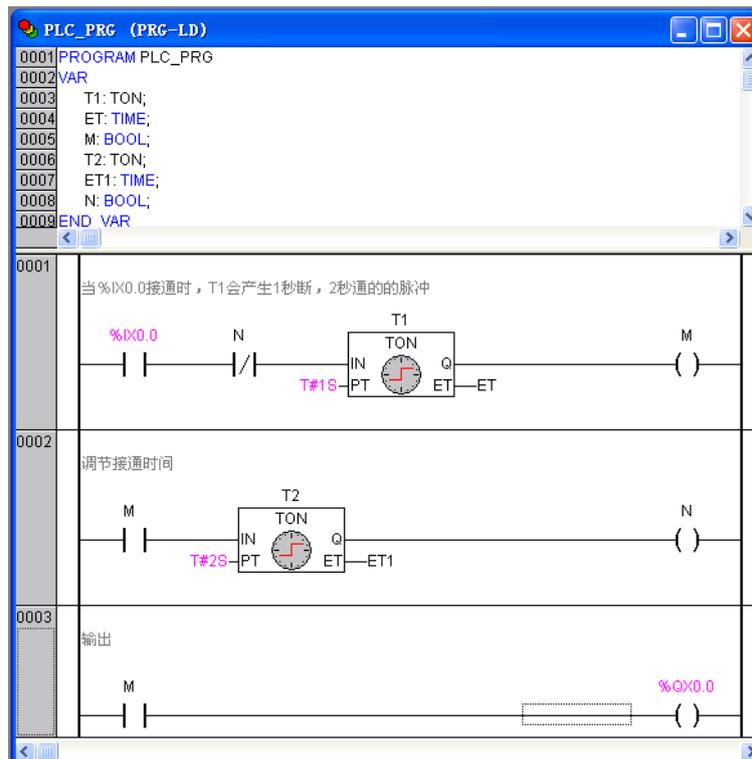

Figure 3-6-16 Programming Step (16)
- The comment is completed, as shown in figure 3-6-16.